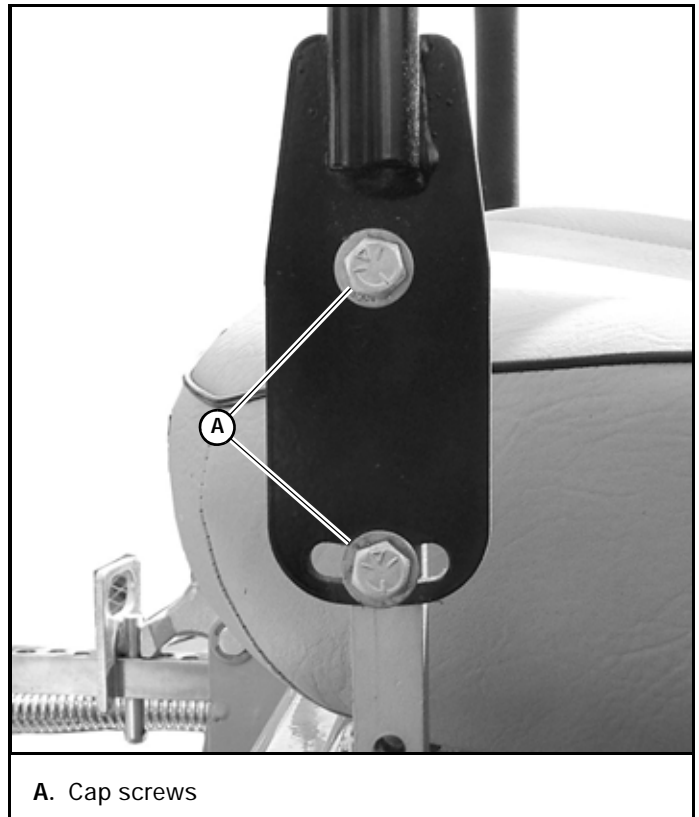

Figure 4-8
1. By loosening the cap screws that attach the upper control lever to the lower lever the upper control lever can be pivoted to fit the operator's personal preference. Figure 4-8